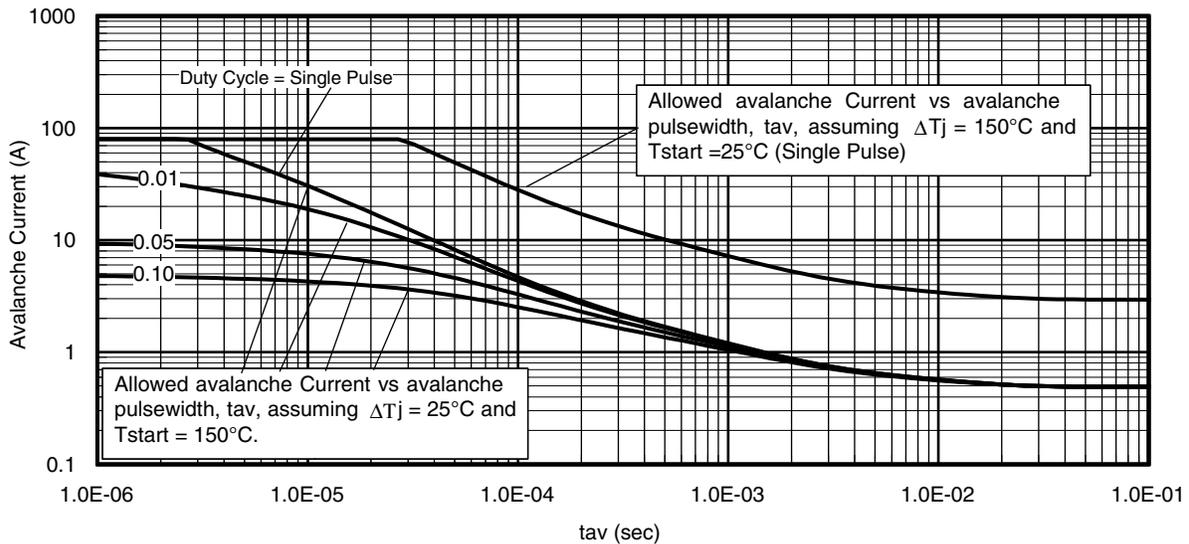

Fig 14. Typical Avalanche Current vs. Pulsewidth
**Notes on Repetitive Avalanche Curves , Figures 14, 15:**
7.  $\Delta T$  = Allowable rise in junction temperature, not to exceed  $T_{jmax}$  (assumed as 25°C in Figure 14, 15).